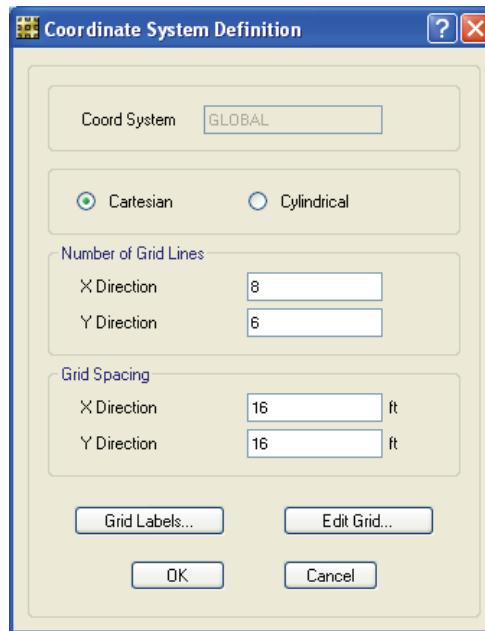

Figure 53 Coordinate System Definition form
- D. In the Initial Model area, click the **Grid Only** button to display the Coordinate System Definition form shown in Figure 53. This form is used to specify the number of grids and spacing in each direction. It is important that the grid be defined such as to accu-
2. As shown in Figure 53, set the Number of Grid Lines in the X Direction to **8** and in the Y Direction to **6**.